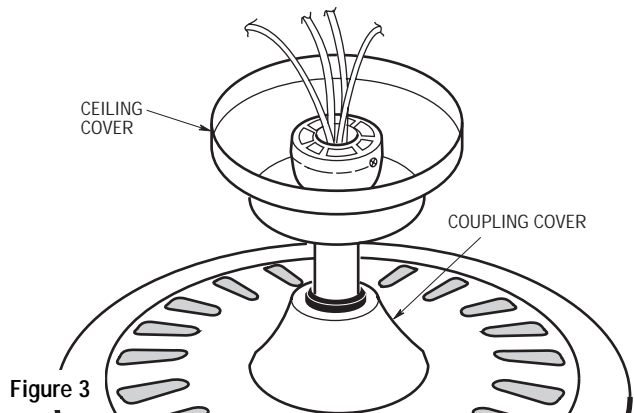

Figure 3
3. Make sure the grommet is properly installed in the coupling cover, then slide the coupling cover on the downrod until it rests on the motor housing. Place the ceiling cover over the downrod. Be sure that the ceiling cover and the coupling cover are both oriented correctly (Figure 3).